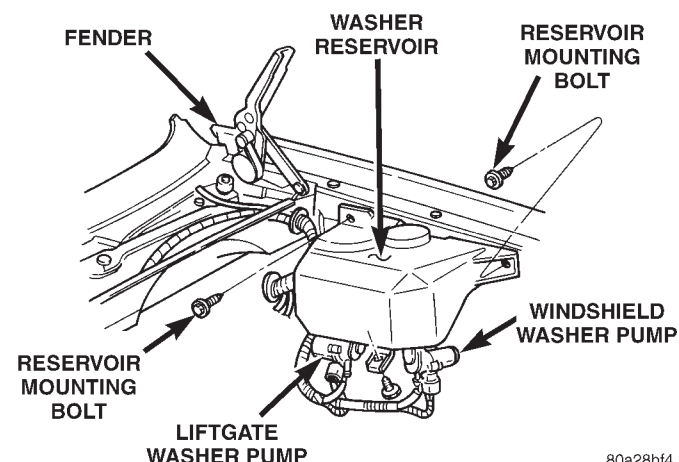

Fig. 16 Washer Reservoir Remove/Install
(1) Disconnect and isolate the battery negative cable.
(2) Remove the three screws that secure the washer reservoir to the inner fender shield (Fig. 16).